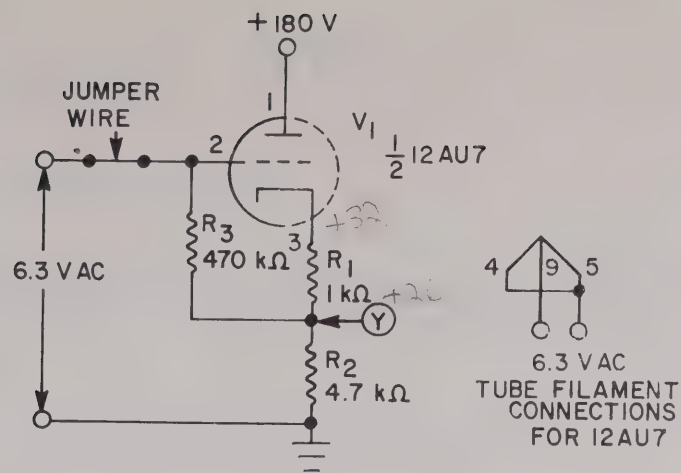
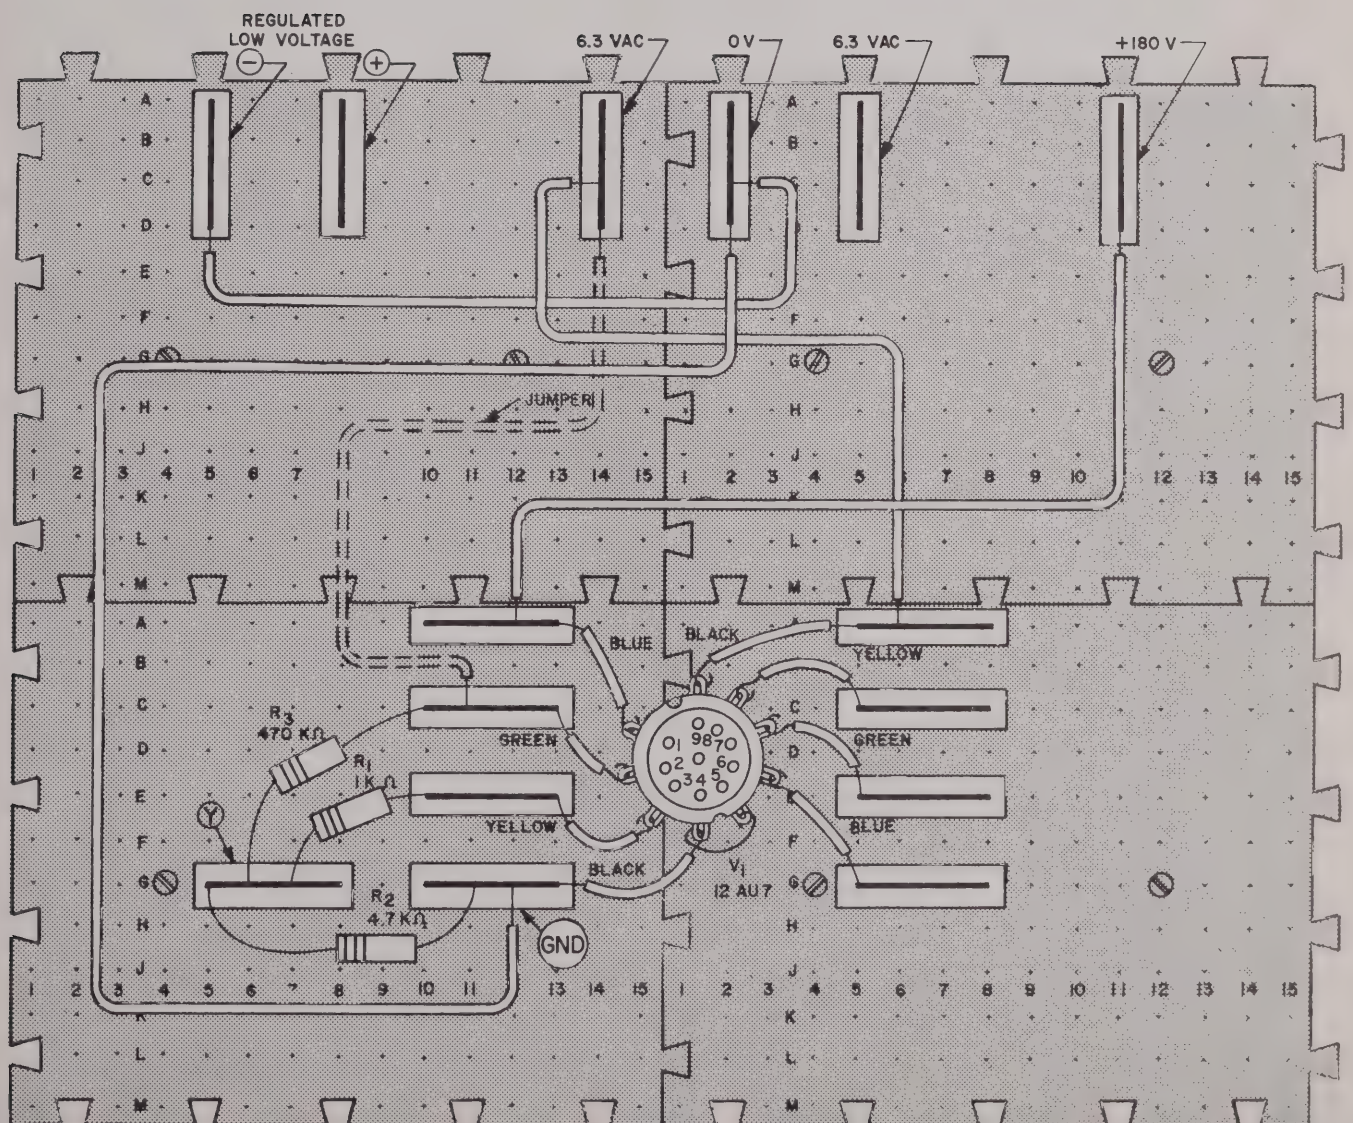

FIGURE 6-1
FIGURE 6-2
1. Construct the cathode follower circuit of Figure 6-1, following the layout of Figure 6-2. Make sure that the design console is turned off while constructing the circuit. Do not connect the jumper wire (at the grid) into the circuit at this time. Note that there is only an ac ground in this particular plate circuit. The capacitor providing this ac ground is the filter capacitor in the high voltage power supply.
2. B - IN THE CIRCUIT OF FIGURE 6-1, IF THE BOTTOM END OF R_3 IS RETURNED TO GROUND INSTEAD OF TO THE JUNCTION OF R_1 AND R_2 , -- THE GRID-CATHODE VOLTAGE WILL INCREASE.
3. B - THE CATHODE FOLLOWER CIRCUIT OF FIGURE 6-1 IS ALSO REFERRED TO AS A -- GROUND-ED-PLATE AMPLIFIER.
5. D - WHAT WOULD HAPPEN IN THE CIRCUIT OF FIGURE 6-1 IF A LARGE BYPASS CAPACITOR WERE CONNECTED FROM CATHODE TO GROUND? -- THE VOLTAGE GAIN WOULD DECREASE.